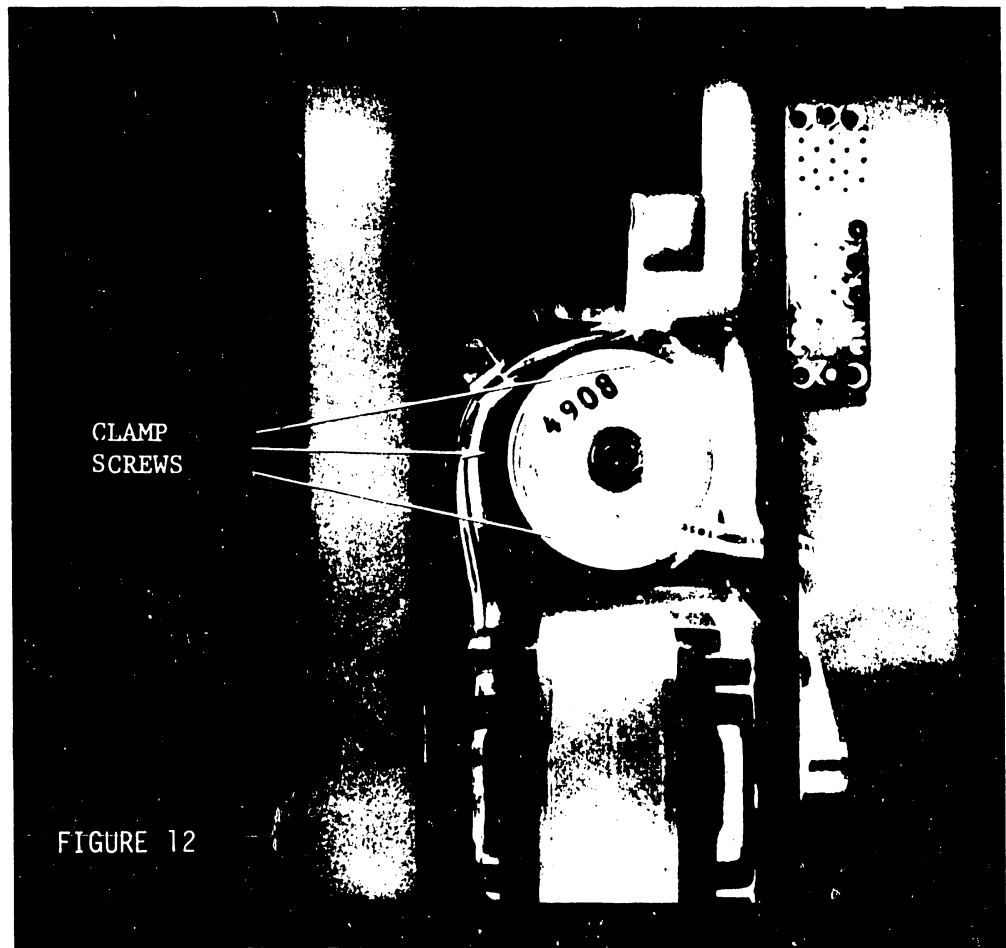

FIGURE 12
- 2) Loosen three screws in head position actuator housing-to-baseplate clamps sufficiently to permit housing rotation (Figure 12)